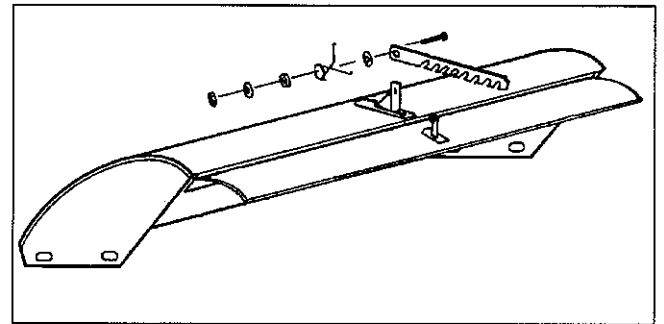

figure 30
5. Attach the arm to the arm mounting with a carriage bolt, washer, spring, bushing, washer and nut (figure 30).